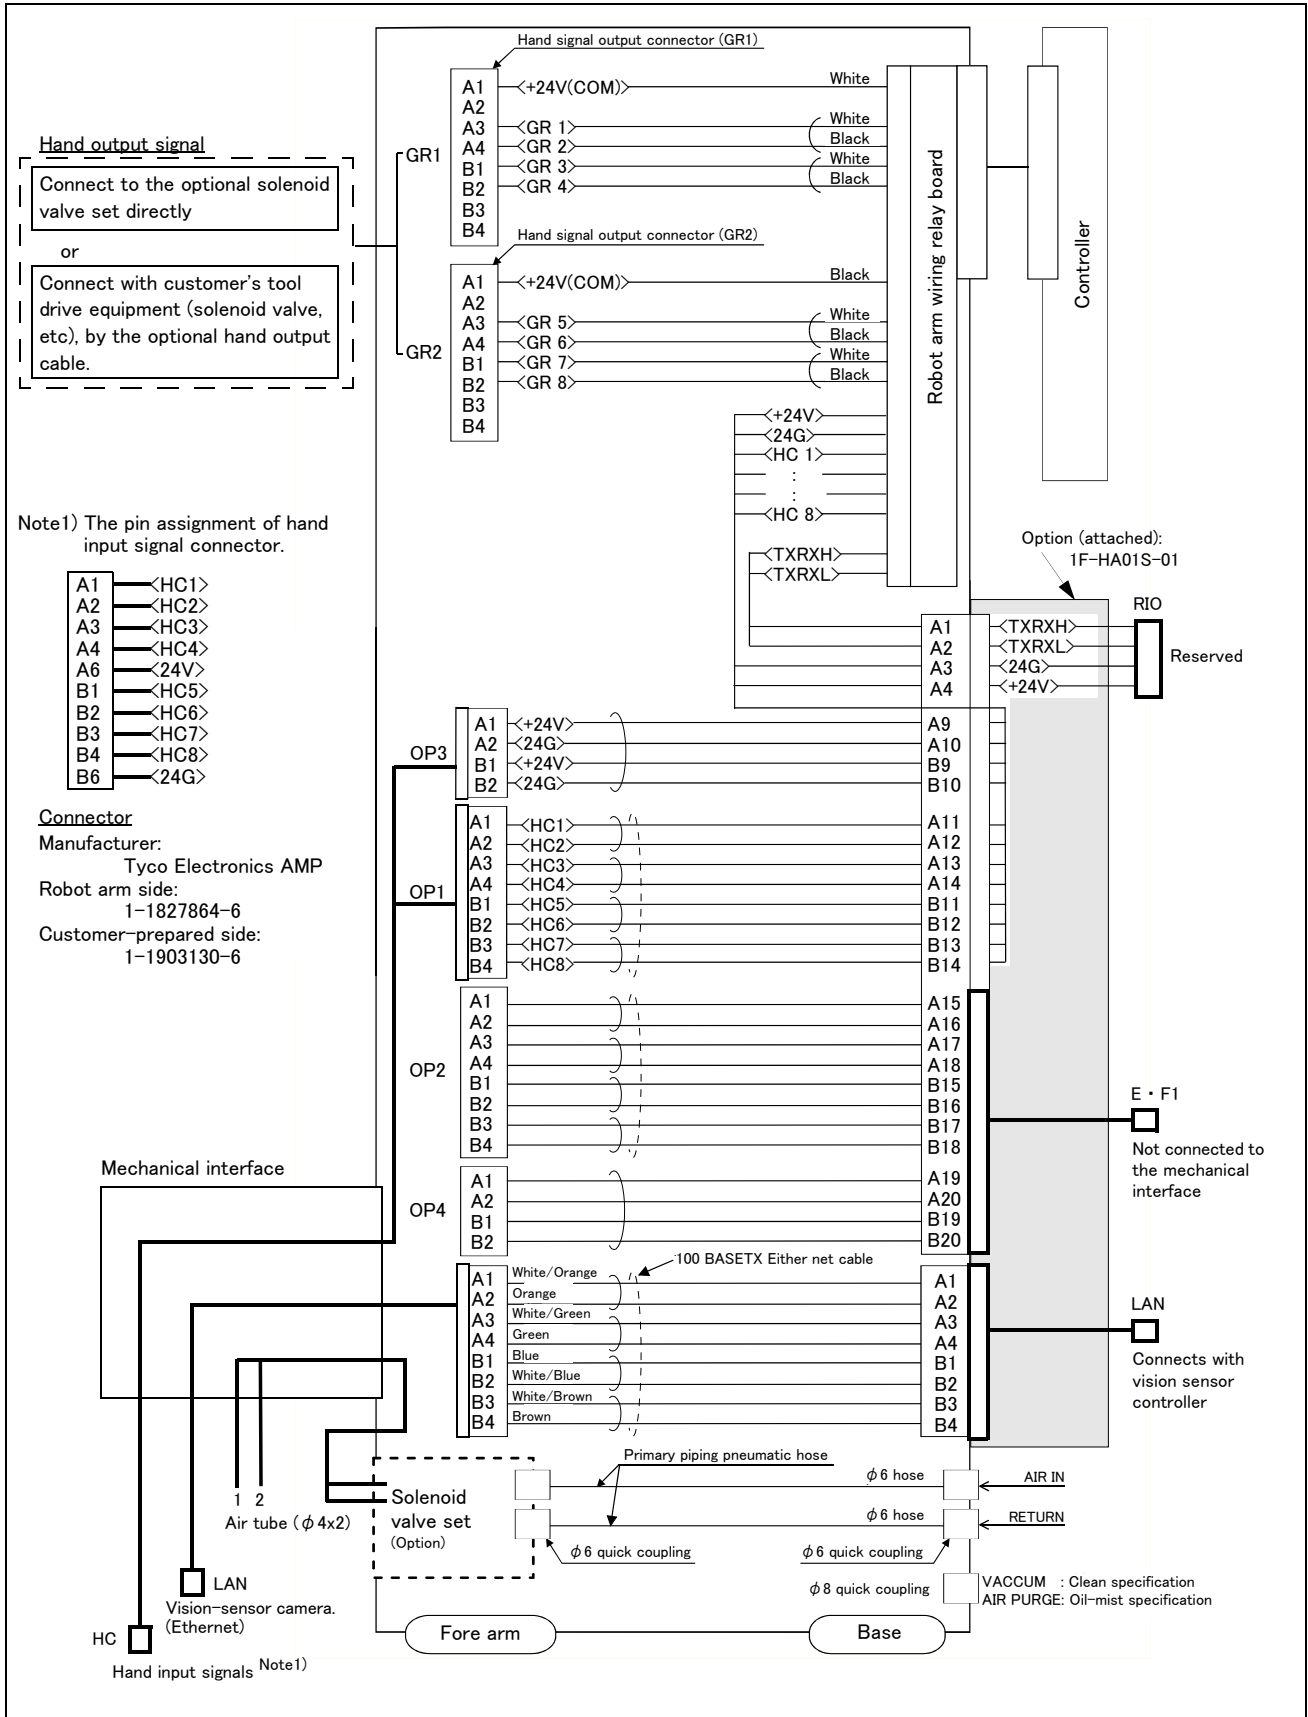

Fig.2-38 : Wiring and piping system diagram for hand and example the solenoid valve installation: RV-4F/7F/13F series SH05
- *3) Refer to Fig. 2-38 for pin assignment of the hand input cable (HC).